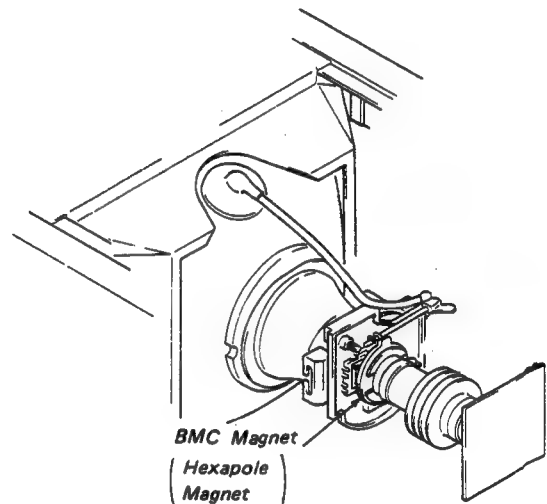

Fig. 1-7.
3. Move the BMC magnet to correct H. static convergence as shown in Fig. 1-7.
3. Move the BMC magnet to correct static convergence as shown in Fig. 1-7.